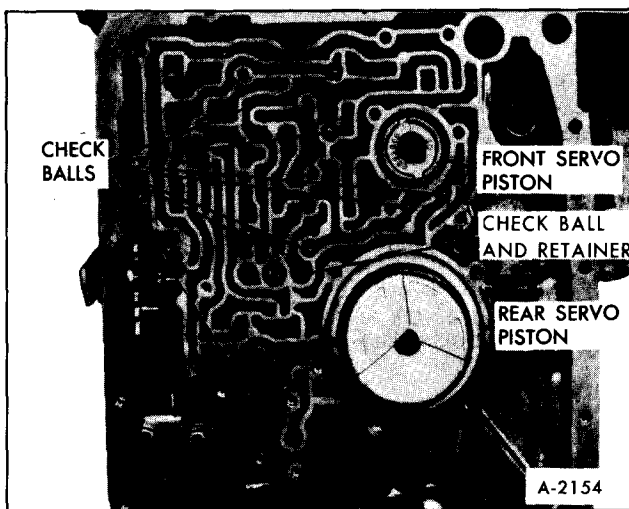

Figure 28—Location of Check Balls
9. Remove seven check balls from cored passages in transmission case, Figure 28.
1. Lift front servo piston retainer ring, pin, spring retainer and spring out of transmission case, Figure 28.
2. Remove rear servo assembly from transmission case, Figure 28.